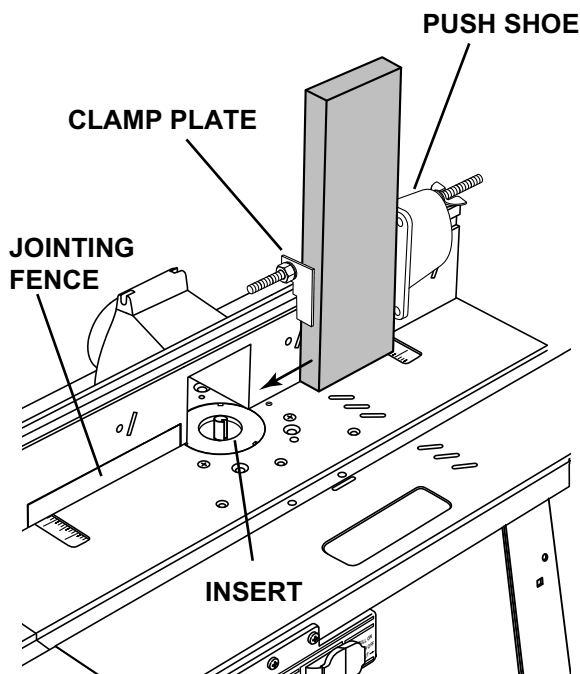

Figure 35
1. Place correct insert into hole in table. See Figure 35.